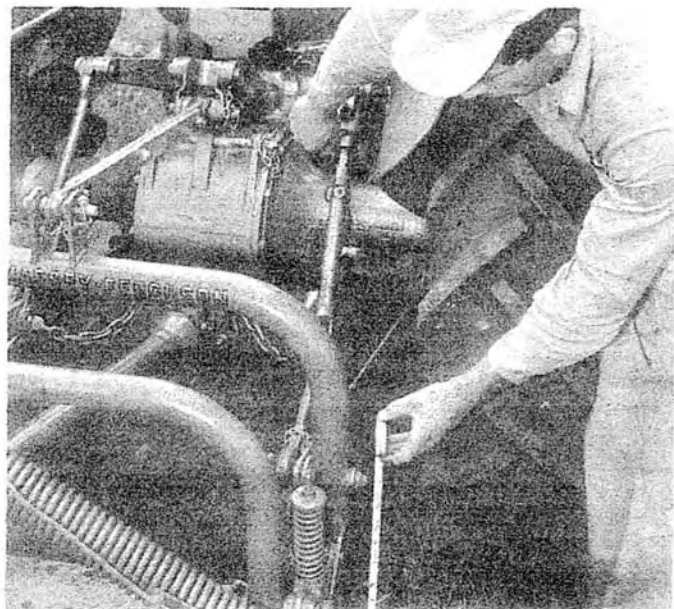

Fig. 17 - Adjusting Operating Height — Right Side
2. Using the hand crank on the right-hand lift link, set the right-hand hitch pin also to 19-1/2 to 20 inches off the ground; measure this distance the same way as with the left link, see Fig. 17.